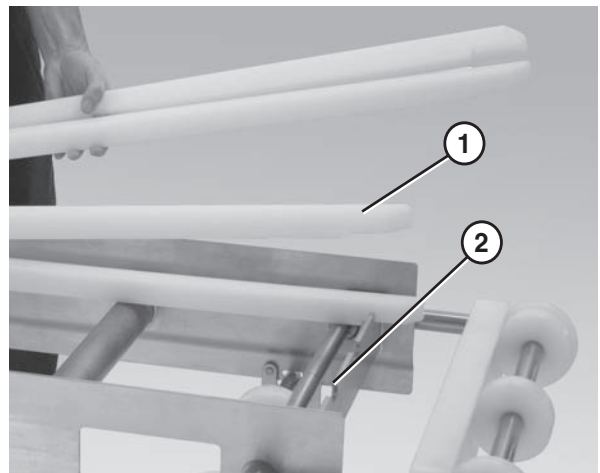

Figure 26
1. Position the wear strips (Figure 26, item 1) on the frame.
2. Make sure the wear strips are situated securely in the frame slots (Figure 26, item 2).